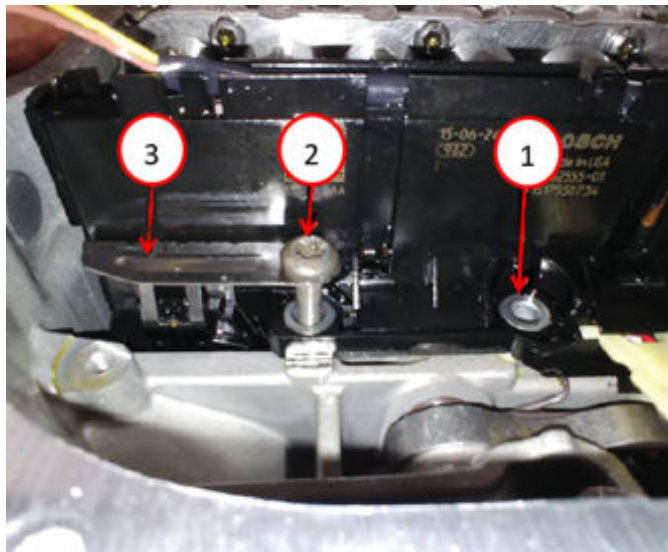

Fig. 8
15. Remove the valve body assembly end retainer bolts Fig. 8.